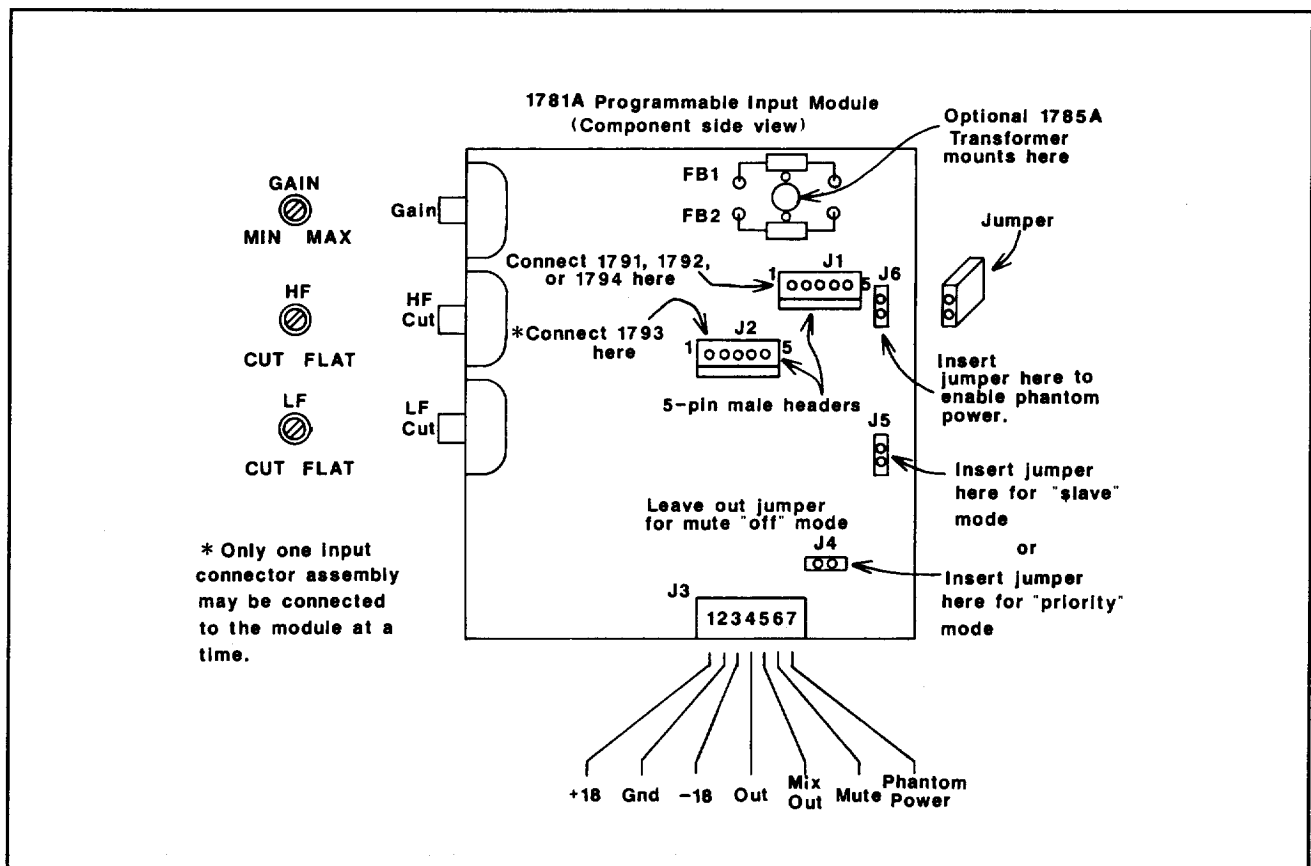

Figure 1 Optional 1781A Configuration
1. Remove the two wire jumpers with ferrite beads, designated FB1 and FB2, near the upper right corner of the module when looking at the component side of the circuit board. Refer to Figure 1 for details.
To configure an input module for the priority mode, install a 2-pin female jumper onto J4, the 2-pin male header connector located near the lower right corner of the module as shown in Figure 1.
To configure the module for the slave mode, install a 2-pin female connector onto J5, the 2-pin male header connector located near the right edge of the module as shown in Figure 1.
To enable phantom powering of condenser microphones, install a 2-pin female jumper onto J6, the 2-pin male header connector located near J1 as shown in Figure 1. This will apply +36 VDC to each side ("+" and "-") of the microphone's signal lines.
The 1781A programmable input module has two 5-pin male header connectors (J1 and J2) which are used to interface the 1790-series of connector assemblies. Due to circuit differences between a balanced mic input ("+" and "-") and a tape input (L and R), use J1 with the 1791, 1792, or 1794. Connector J2 should only be used with the 1793 dual phono connector. Please refer to Figures 1 and 3 for additional information.